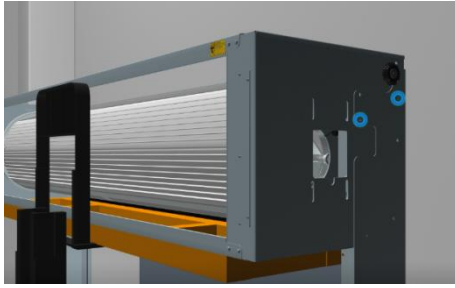

Figure 3-6
3.6.1 Two holes special for location without screw. *As shown in Figure 3-6.* Fix the head assembly and the columns with external hexagon screw (trim pad) (M10 × 25) screws at both sides. *As shown in Figure 3-7.* There are not less than 7 screws between the head assembly and the columns at each side.